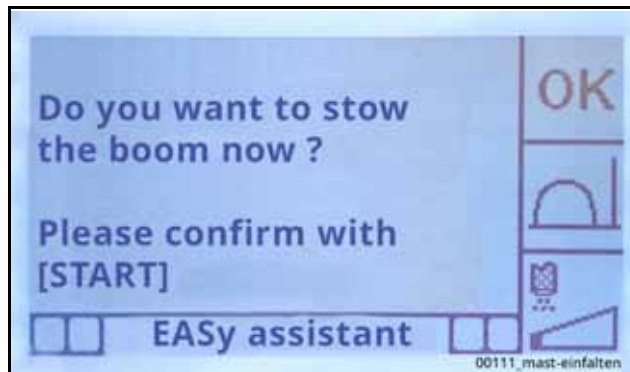
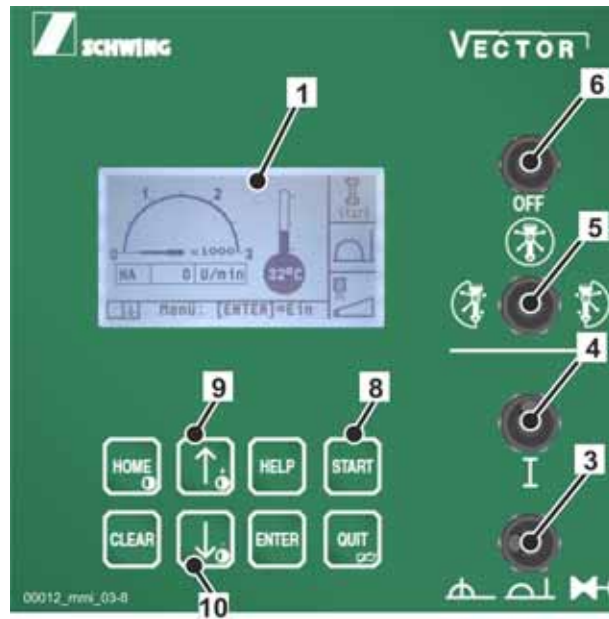

Fig. 530
Fig. 537
- Use the "Start" button (8) (**Fig. 537**) to confirm the message on the display of the VECTOR control asking whether you want to leave the work area (**Fig. 530**).
- Confirm this by pressing the "START" button (8) (**Fig. 537**).